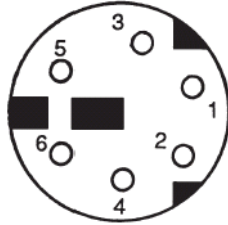

Figure L-4 RS485 Connector
7. Make the connections using the pins shown Figure L-4 and the signal assignments given in Table L-8.